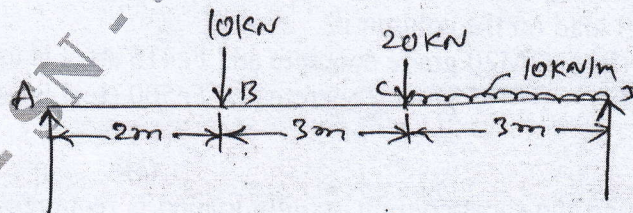

Fig. Q3 (b)
b. Draw the shear force diagram and bending moment diagram for the beam shown below in Fig. Q3 (b). (16 Marks)